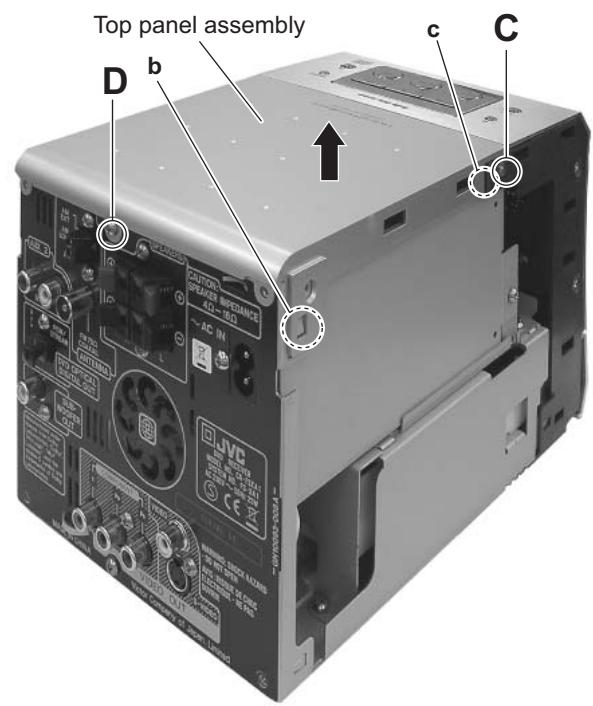

Fig.6
- (2) From the back side of the main body, remove the screw **D** attaching the top panel assembly. (See Fig.6.)
- (4) Take out the top panel assembly in the direction of the arrow. (See Fig.6.)